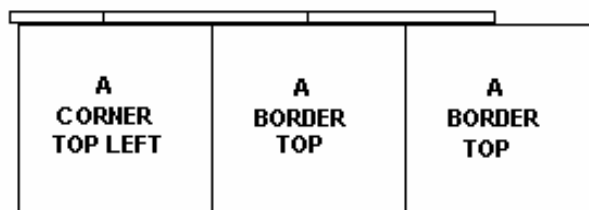

Figure 7
7. Next take another transition and lock the next two panels (Figure 7).